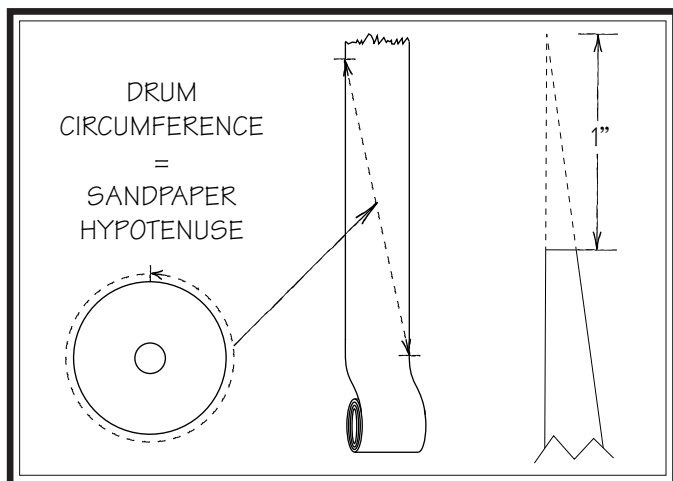

Figure 21. Finding sandpaper taper angle.
7. Use old sandpaper as a pattern to cut new sandpaper, or measure and cut sandpaper taper yourself (see **Figure 21**). Cut 1" off each tapered end.